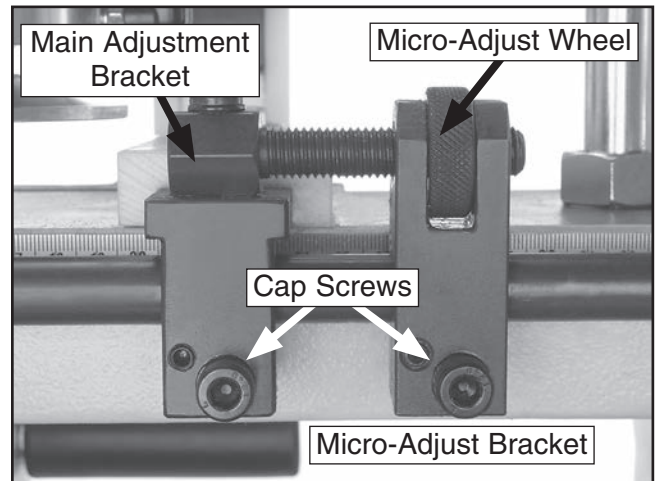

Figure 28. Horizontal fence adjustment components.
- Familiarize yourself with the horizontal fence adjustment components in **Figure 28**.
- Loosen both cap screws shown in **Figure 28**.